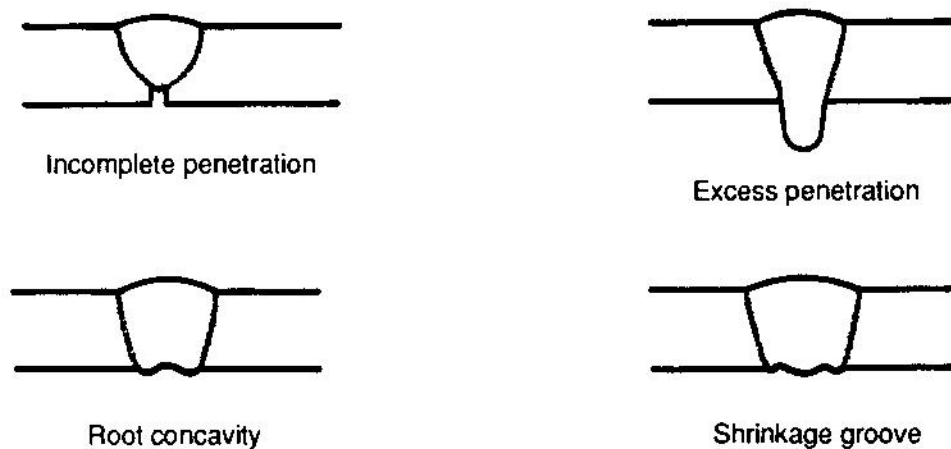

Figure 3-1 Root defects
- (1) Cleaning and dressing: When dressing of the weld face is required, ensure that overheating of the joint due to the dressing action, dressing marks and an uneven finish are avoided. In the case of fillet welds and butt welds that are to be dressed flush, ensure that the joint merges smoothly with the parent metal without under-flushing.
- (2) Penetration and root examination (fig. 3-1): In the case of butt welds made from one side only, check that over the whole of the joint the penetration and any root concavity, or shrinkage grooves are within the limits specified in the acceptance criteria, using appropriate measuring devices and optical or other aids if necessary from the access point of view.